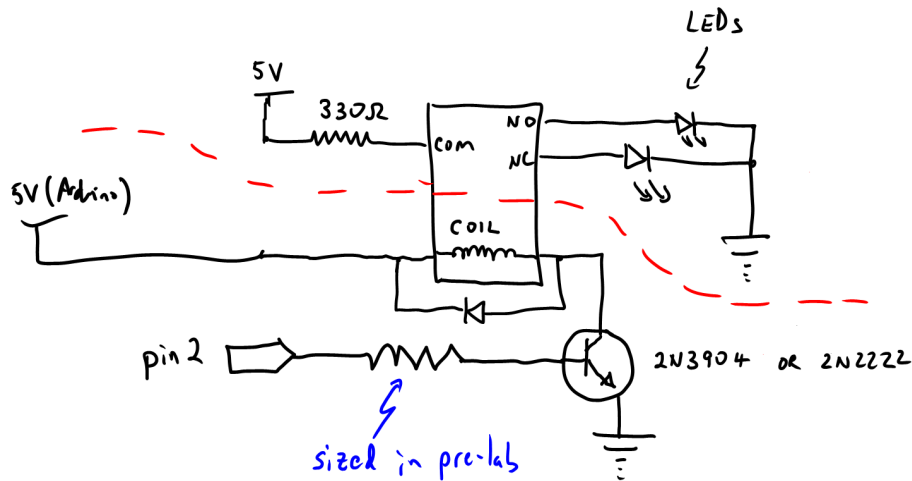

Figure 4: Relay schematic. The dashed line shows the separation between the two circuits, the control circuit on the bottom and the power circuit above.
- Use the circuit in Figure 4. The one in the tutorial is crap.